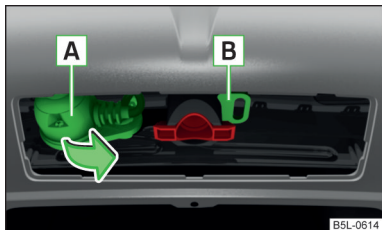

Fig. 152
- Swing the 13-pin socket in the direction of arrow **A** » Fig. 152.
- Plug the trailer cable into 13-pin socket **A** » Fig. 152. (If the trailer / accessories have a 7-pin connector, use a corresponding reduction piece from the ŠKODA Original Accessories).